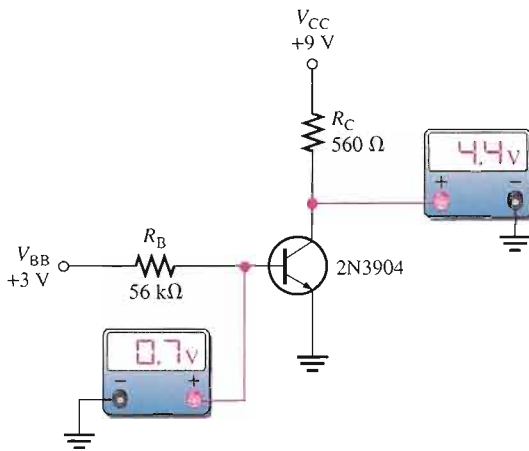

FIGURE 4-30
2. In a transistor bias circuit, such as the one in Figure 4-30, what happens if  $R_B$  opens?
3. In a circuit such as the one in Figure 4-30, what are the base and collector voltages if there is an external open between the emitter and ground?